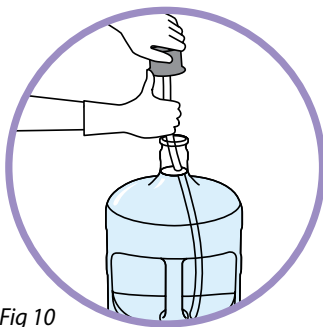

Fig 10
12. Wearing gloves, carefully unpack the new bottle adaptor. Pull the adaptor tube to straighten (Fig 10) and insert it into a new water bottle.